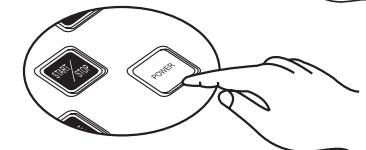

Figure 5
6. After the battery's power is used up, the indicator will flash gradually. When the indicator becomes normally on, it means the battery is charged fully. (See Figure 5)